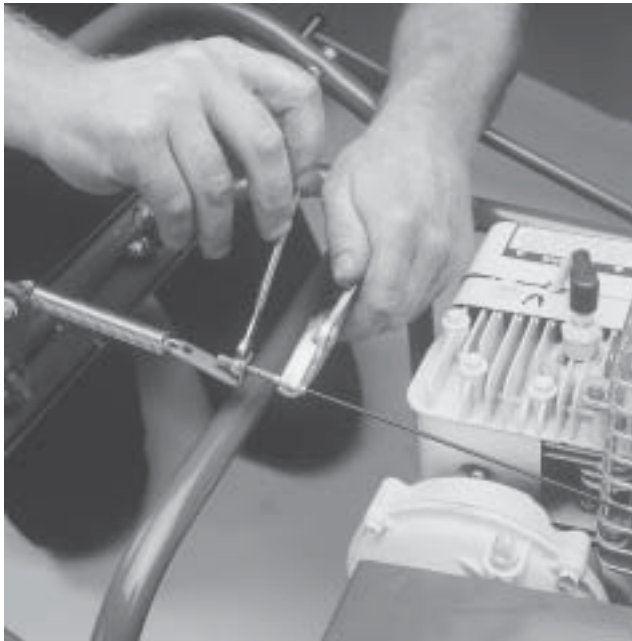

Figure 12
4. Adjust cable to obtain $\frac{3}{4}$ " to $1\frac{1}{4}$ " extension of the clutch spring when clutch is engaged. (see Figure 12).